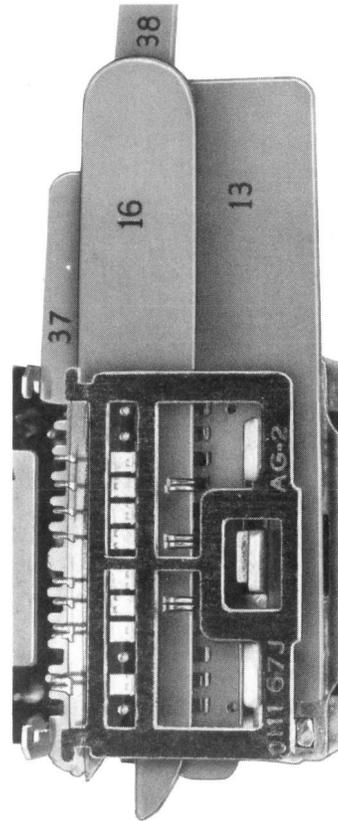

Fig. 10—Detail 16 Lifter in Place With Detail 13 Comb, Detail 37 Comb, and Detail 38 Comb Lifter
3.16 With the taper of detail 16 lifter facing to the right, place the lifter behind the card inserting it between the right movable twin contact springs and the fixed single contact springs as shown in Fig. 10. Push the lifter down until all the movable contact springs are lifted in pairs between the teeth of the detail 13 comb.